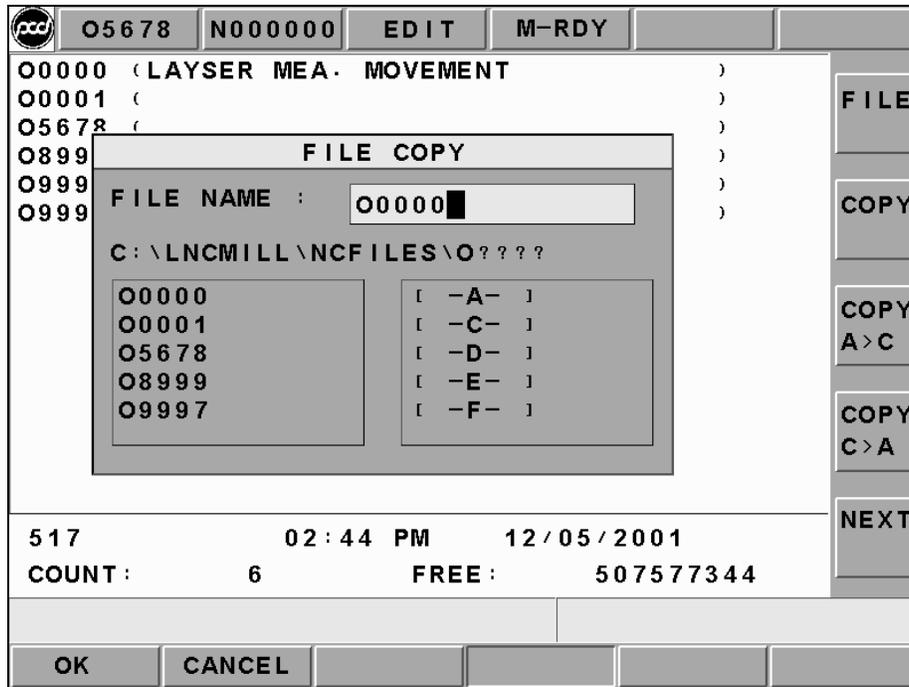
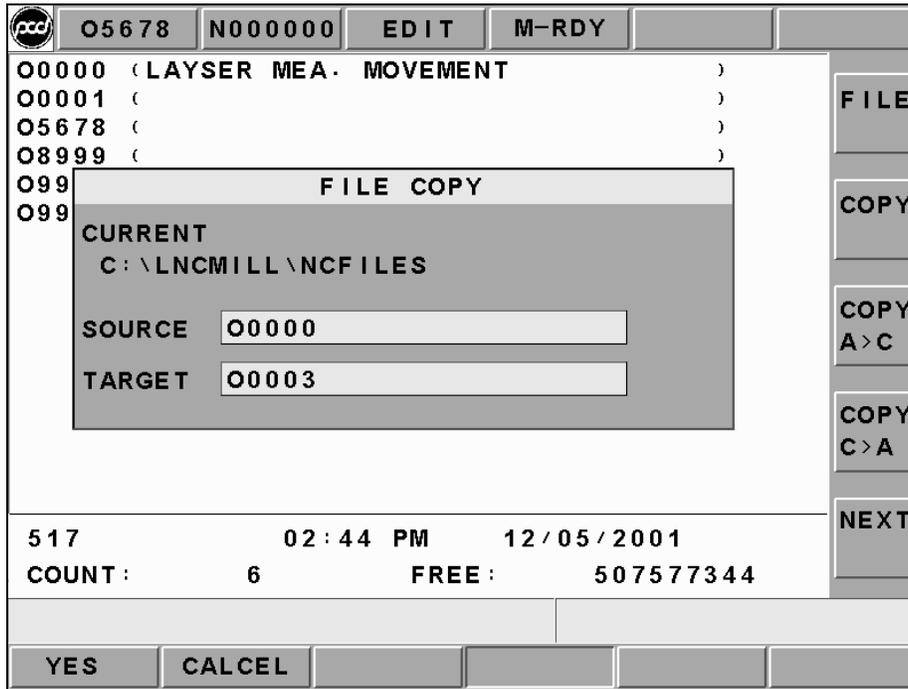

Figure 2.5-9 Screen of Pressing 【COPY】 Function Button
Figure 2.5-10 Screen of Key-In Destination File Name
1. A dialog box of file copying will occur on the screen by pressing copy button. Users are able to choose or key-in the file's path or file name as the source file when copy files. The screen after pressing copy function button is as Figure 2.5-9. After completed entering and pressing confirm button, the screen of entering the destination file is as figure 2.5-10.